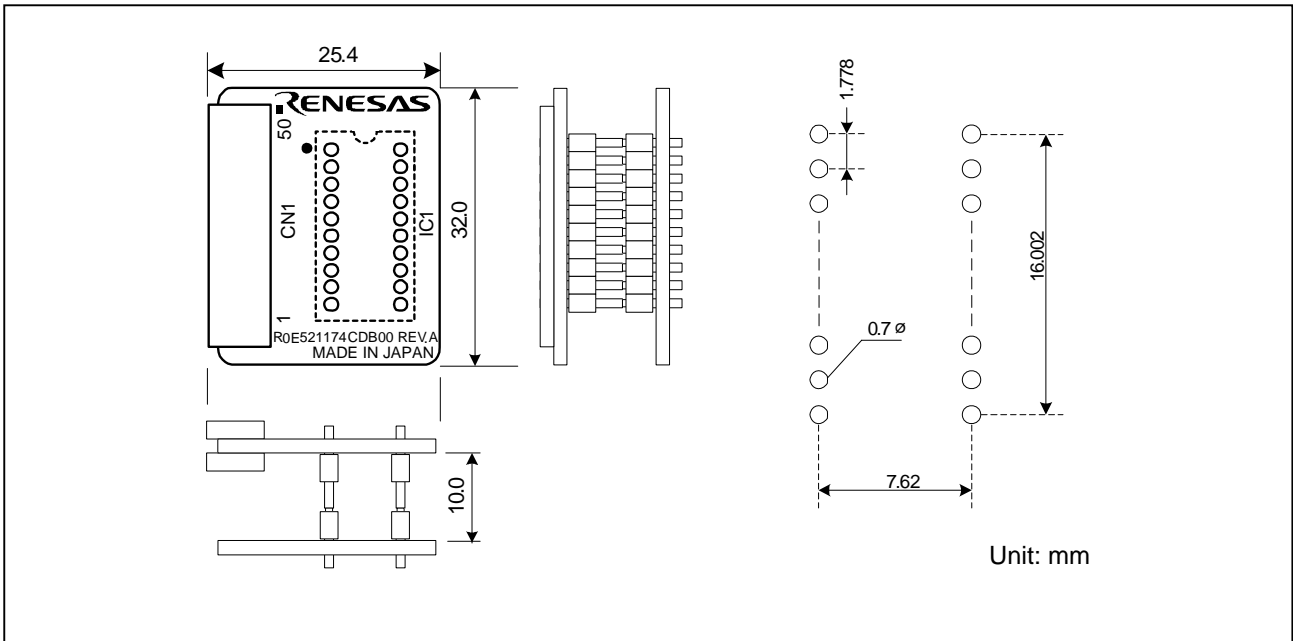

Figure 4 External dimensions and a sample foot pattern of the R0E521174CDB00
6. External Dimensions and a Sample Foot Pattern (See Figure 4)